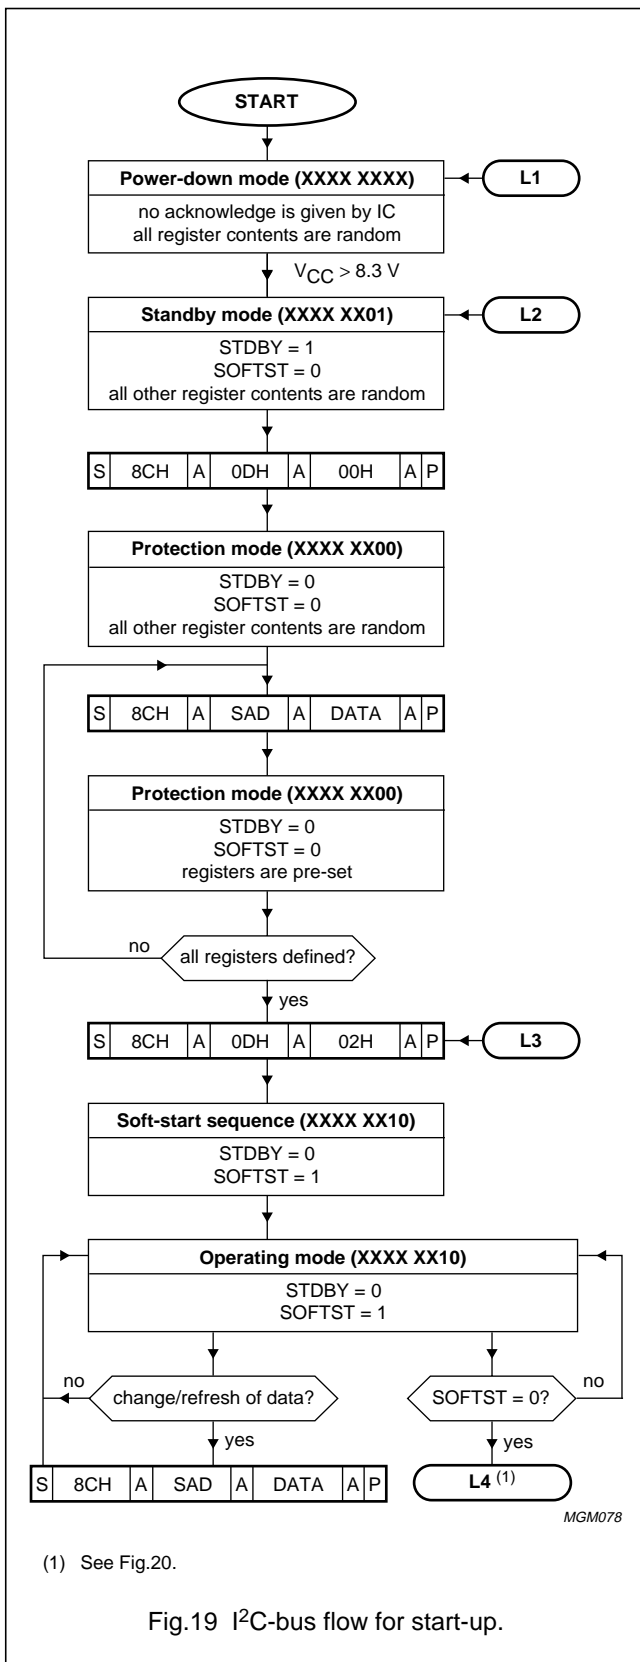

Fig.19 I²C-bus flow for start-up.
2. Starting the soft start sequence by setting control bit SOFTST = 1 (bit STDBY = don't care); see L3 of Fig.19 for continuation
- See L2 of Fig.19 for continuation.